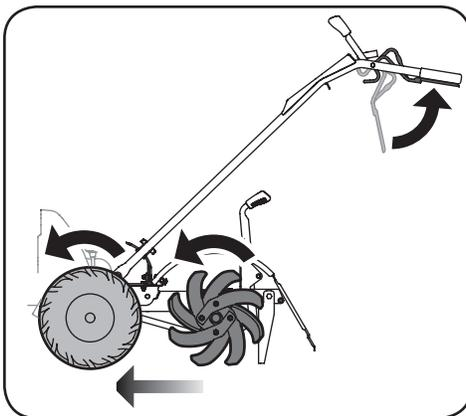

Figure 4-4
- b. As the tiller drives forward the tines will also rotate, digging into the ground. Walk behind and a little to one side of the tiller. Use a secure, comfortable grip on the handlebars. Let the tiller move ahead at its own pace. See Figure 4-4. To stop the forward motion of the wheels and tines, release the bail.